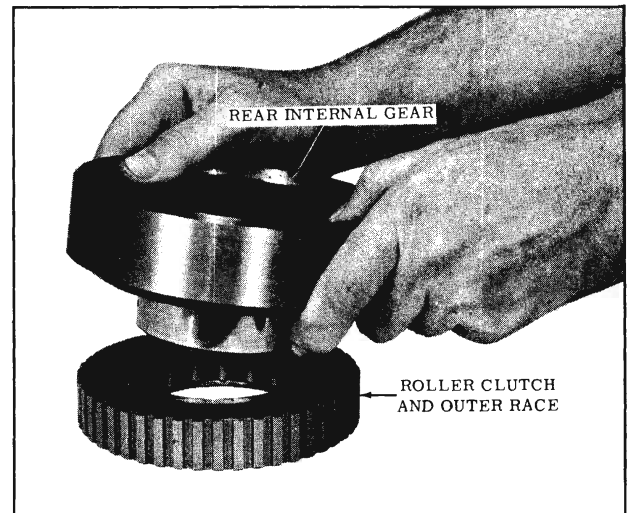

Fig. 3-86 Installing Rear Internal Gear
4. Place the outer race and roller clutch assembly on the bench with the word "front" on the roller clutch cage facing the bench. (Fig. 3-86)